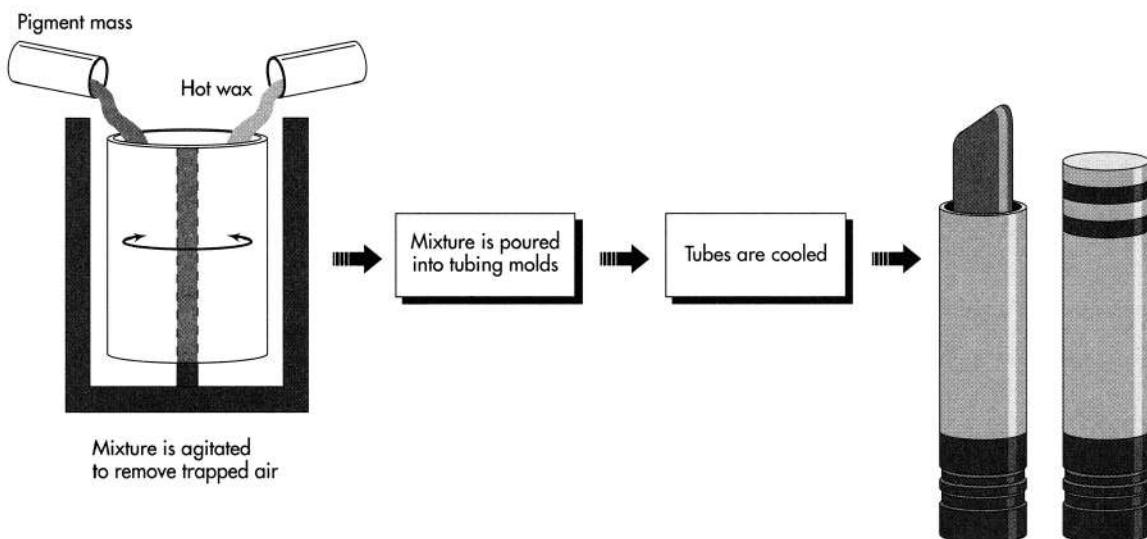

Figure 2. The mixture is agitated to remove trapped air.
- 4.** If the molten lipstick is to be used immediately, the melt is kept at the same temperature and agitated so that trapped air escapes (see figure 2). If the lipstick mass is stored, before it is used it must be reheated, checked for color consistency, then maintained at the melt temperature until it can be poured.